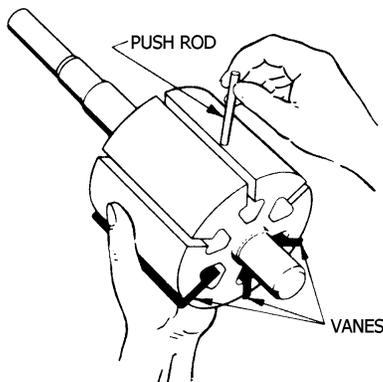
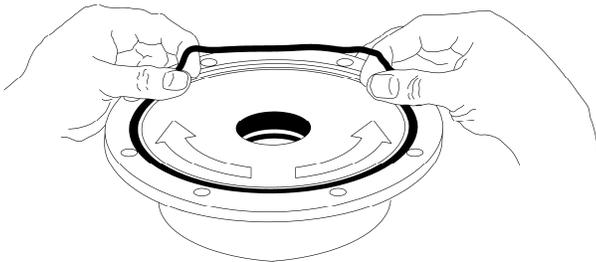
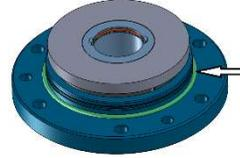
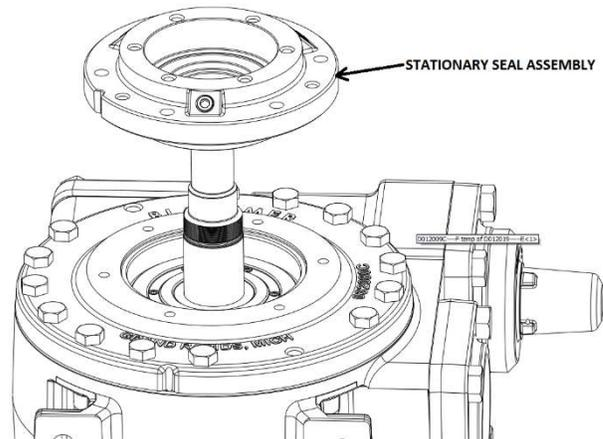

Figure 12 – Pushrod Installation
Figure 15 – Head O-ring Installation
Figure 18 - Seal Cartridge O-ring Position
Figure 18 – Plan 52 Stationary Seal Assembly Installation
- b. Hold the three bottom vanes in place while inserting the three push rods (77). See Figure 12.
- c. Carefully insert the non-driven end of the rotor and shaft (13) into the pump casing (12).
- d. Install the remaining vanes (14) into the top positions of the rotor.
10. Install a new head O-ring (72) in the groove on the inside face of the head (20). Lay the O-ring flat and start in on one side of the groove, stretching ahead with the fingers, as shown in Figure 15.
1. Apply a small amount of grease to the liner key (74) to hold the key in place during liner installation. Install the liner key (74) in the groove on top of the liner (41).
2. Align the liner key (74) with the pump casing keyway and start the liner (41) into the casing (12). The word 'INTAKE' cast on the liner must face the intake port of the pump casing. Uniformly tap the outer edge of the liner with a rubber mallet to fully insert into the casing. NOTE: If the liner is installed backwards, it will restrict the port openings and cause cavitation, noise and loss of capacity.
3. Install a new head O-ring (72) in the groove on the inside face of the head ring (20A). Lay the O-ring flat and start in on one side of the groove, stretching ahead with the fingers, as shown in Figure 15.
7. Install a new head O-ring (72) in the groove on the inside face of the inboard head ring (20A). Lay the O-ring flat and start in on one side of the groove, stretching ahead with the fingers, as shown in Figure 15.
8. Attach the inboard head ring (20A) to the casing per step 4. Groove should be toward the discharge port. Install and hand-tighten four head capscrews (21), 90 degrees apart.
- b. Install a new rotating O-ring (72B) on the seal cartridge and place in corner up against mounting face. (see figure 18)
5. Install Head Ring (20) onto casing, while ensuring not to touch or damage Rotating Seal Face. Pressure feed groove in Head Ring should be located near discharge area of pump. See Figure 15.
6. Install Head Ring Capscrews (21) and torque to 30 ft-lbf.
7. Install Stationary Seal Assembly (153) into Head Ring (20), making sure to carefully lower assembly in a controlled manner; dropping the seal assembly may damage carbons. See Figure 18.
8. Install Capscrew (22) into Stationary Seal Assembly (153). Finger tighten screws.
9. Hand pack the ball bearing (24) with grease. See the "Lubrication" section for recommended greases.
10. Install the bearing (24) into the seal cartridge recess over shaft. The bearing balls should face outward, with the grease shield inward. Ensure the bearing is fully and squarely seated in the seal cartridge (153).